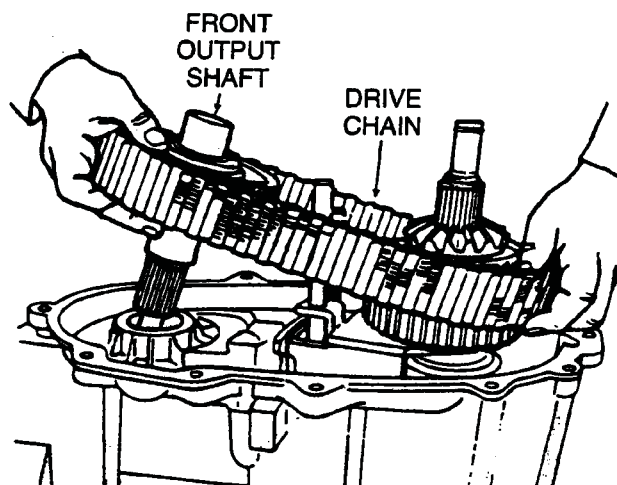

Fig. 4-12 Remove Front Output Shaft and Drive Chain
15. Remove front output shaft and drive chain (Fig. 4-12).